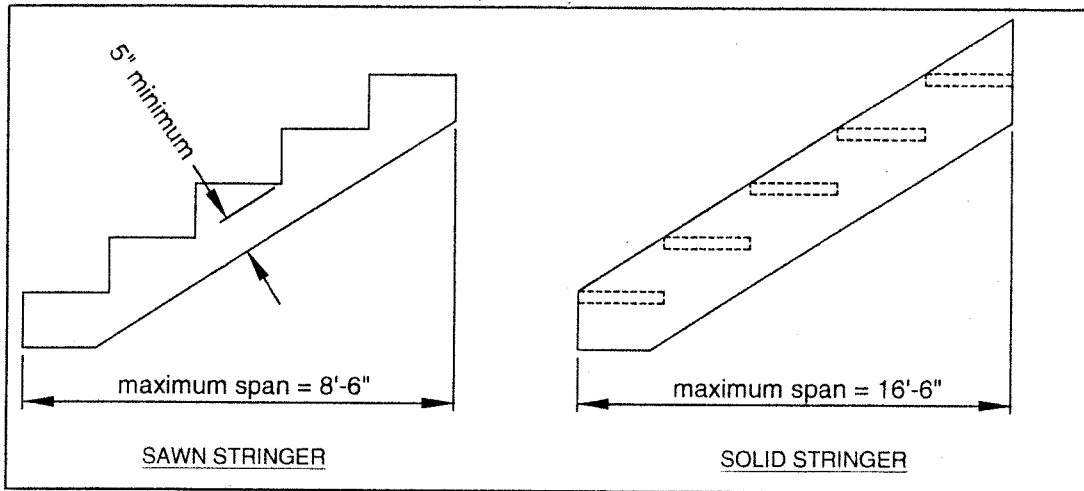

FIGURE 34: STAIR STRINGER REQUIREMENTS
All stringers shall not exceed the horizontal span length shown in FIGURE 34. If the stringer span exceeds the maximum limit, a 4x4 post may be provided to support the stringer and shorten its span length. The 4x4 post shall be notched and bolted to the stringer with (2) $\frac{1}{2}$ " diameter through-bolts with washers per FIGURE 10, Option 1. The post shall be centered on a 12" diameter or 10" square, 4" thick footing. The footing shall bear 24" below grade, and the post shall be attached to the footing per FIGURE 12. An intermediate landing may also be provided to shorten the stringer span; see STAIR LANDINGS.